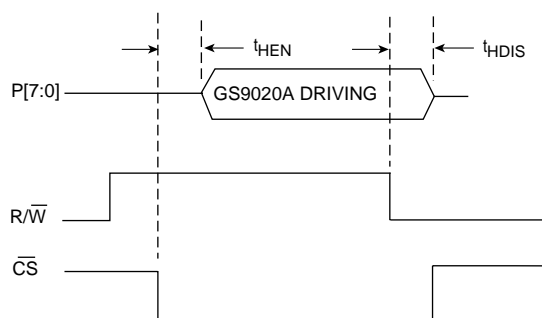

Fig. 14b HOSTIF Parallel Port Output Enable & Disable Times
- C) The GS9020A drives the P[7:0] bus when the R/W pin is HIGH and the CS pin is LOW. At all other times, the P[7:0] port is in a high impedance state. The host interface enable and disable times are shown in Figure 14b and are specified in the AC timing information. In this figure, the rising/falling edges of R/W and CS are not aligned to illustrate that the state of the P[7:0] I/Os is only a combinatorial function of the R/W and CS pins.